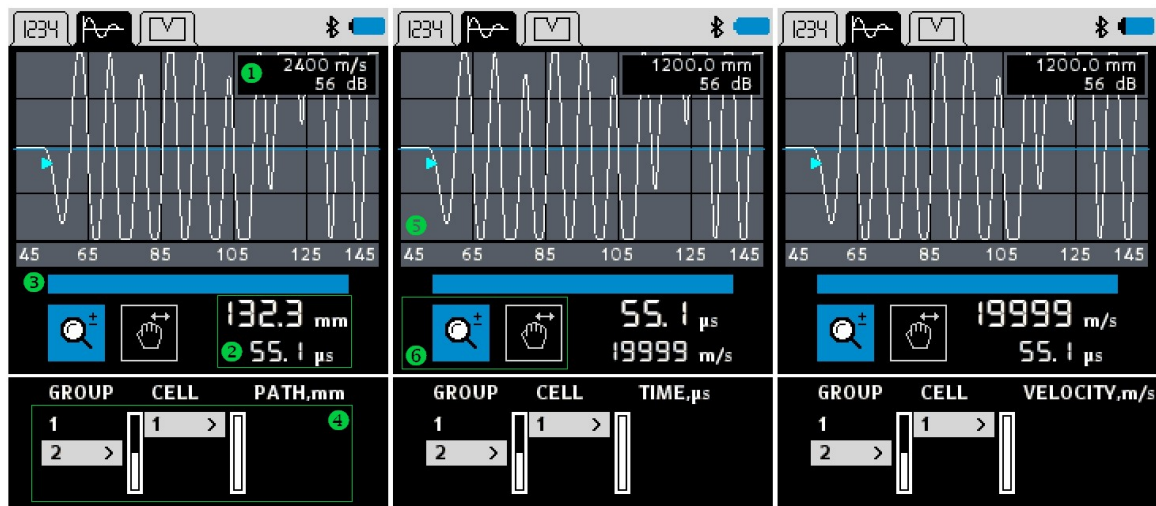

Figure 16: Waveform mode screens
The indicator ⑤ has two segments. The first segment (without crack) shows sound propagation time from the transmitter to the receiver. Figure 16(left) illustrates direct propagation time  $T_{\text{direct}}$ . The second segment (with crack) indicates the propagation time from the transmitter to the crack pitch and from the crack pitch to the receiver. Figure 16 (right) illustrates the total propagation time  $T_{\text{total}}$ .